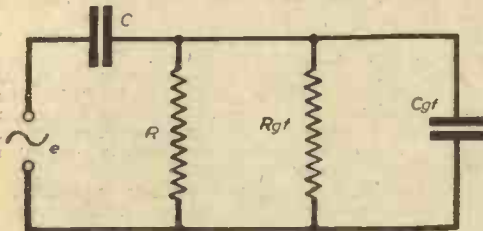

Fig. 5.—Simple equivalent circuit of the grid detector shown in Fig. 4 (March issue).
- (c) Consider the simple equivalent circuit of a grid detector, as shown in Fig. 5. From this it will be seen that it is necessary for the $1/\omega C$ of the grid condenser C to be small to radio frequencies when compared with the grid filament path of the valve